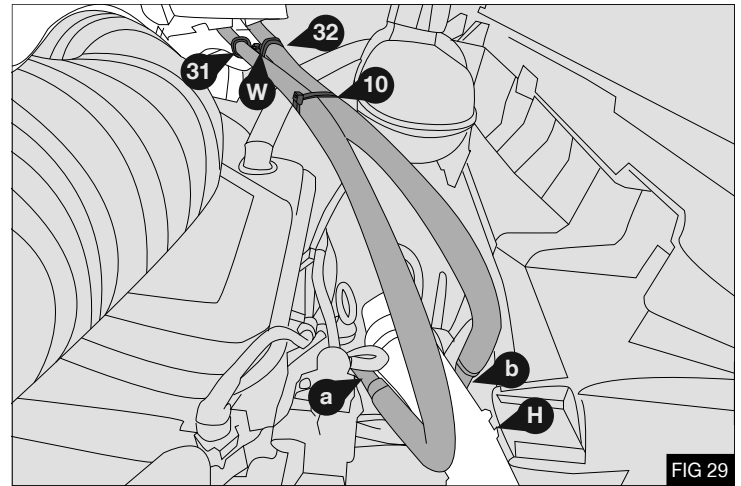

FIG 29
- Secure the hoses (a) & (b) to the air intake using the original screw (W) and p-clips (31) & (32) along with cable tie (10) - Fig 29